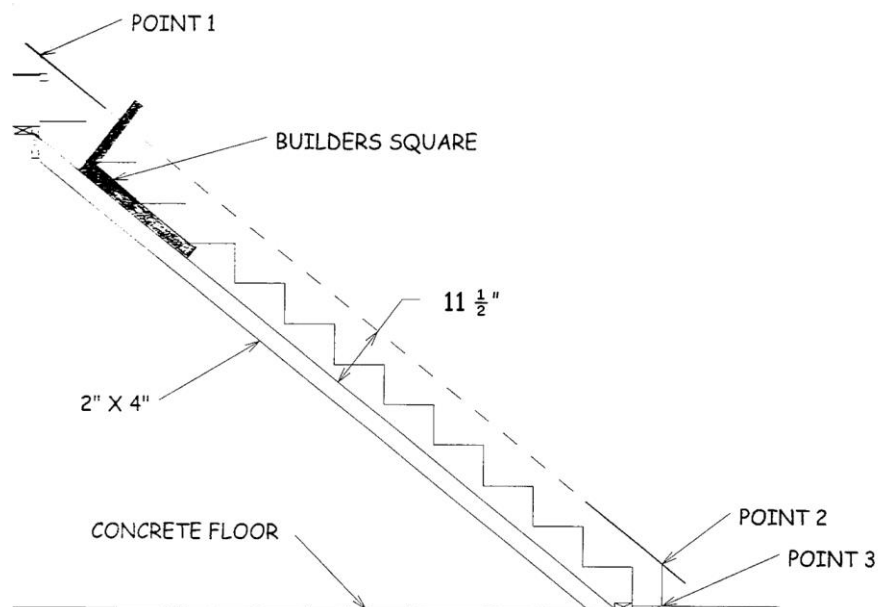

Figure 16-3. Skirtboard Installation.
- Lay the 24" side of a framing square on the 2x4. Make two marks $11\frac{1}{2}$ " up from the 2x4 (the width of the skirtboard) about 3' apart at each end of the stairway. Repeat on the other side of the stairway. (See Figure 16-3.)
6. Place a 6' level on the two marks at the top of the stairway (from Step 5) and scribe a line across the two marks to a point that intersects the plumb lines from Step 3. This creates Point 1, which must be at least 3" above the floor to be higher than the floor trim (see Figure 16-3). Then, using the two marks at the bottom of the stairway (from Step 5), draw a line to a point that intersects the plumb line. This intersection is Point 2 (see Figure 16-3). Repeat on the opposite side of the stairway.